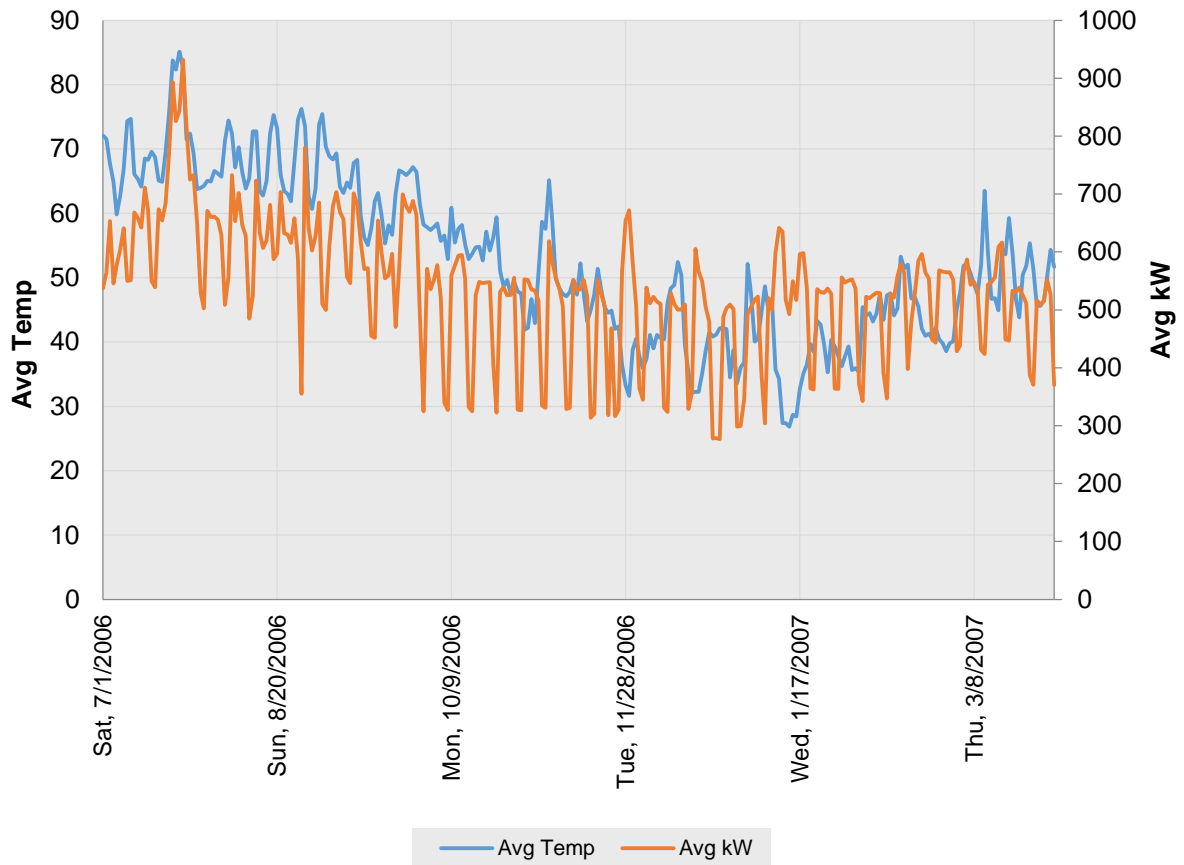

Figure 103: Points History Chart of Temperature and kW, aggregated to the Daily Level.
- Tip! You can convert the short-interval data to daily data by using the scatter chart (!) option described in Section 4.1.3 Toggle Scatter between all Timestamps and Aggregated Values. At first the chart may appear blank. You will need to change any one of the PivotFields briefly—change it then change it back—and then you will get a chart with the data aggregated to the daily level. See Figure 103.